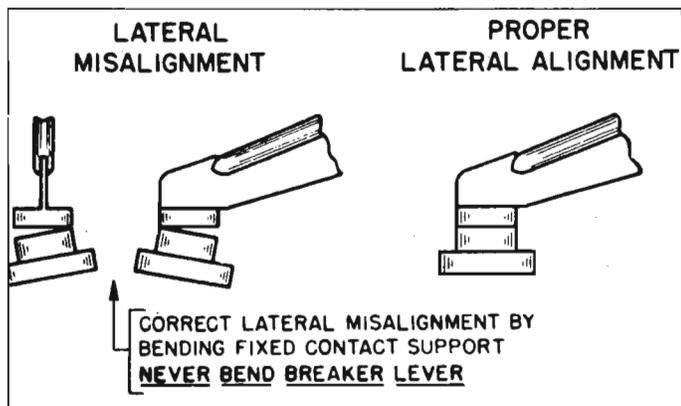

Fig. 8-56—Alignment of Points
5. Align points (fig. 8-56) by bending the fixed contact support if necessary, then recheck point opening. Do not bend breaker lever. Align new points but do not attempt to align used points. Instead replace used points where serious misalignment is observed. Use an aligning tool if available.